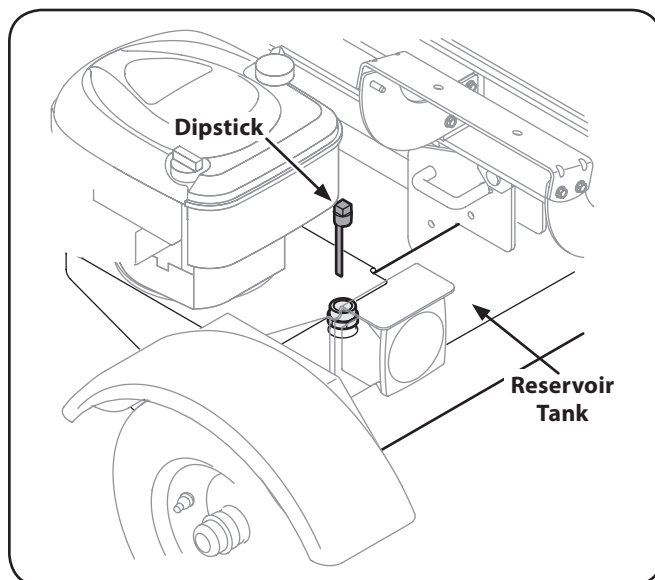

Figure 3-7
2. Remove the vented reservoir dipstick, which is located in front of the engine on top of the reservoir tank. See Fig. 3-7.
3. Check the fluid level using the dipstick. See Fig. 3-7. Do not overfill.